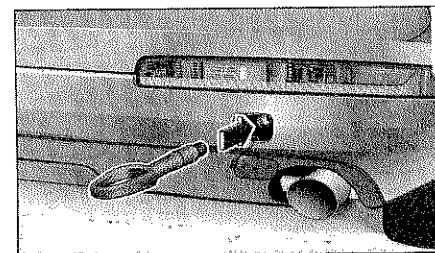

Fig. 323 Rear bumper: Screwing in towing loop
- Screw the towing loop tightly into the threaded hole as far as it will go ⇒ fig. 323.